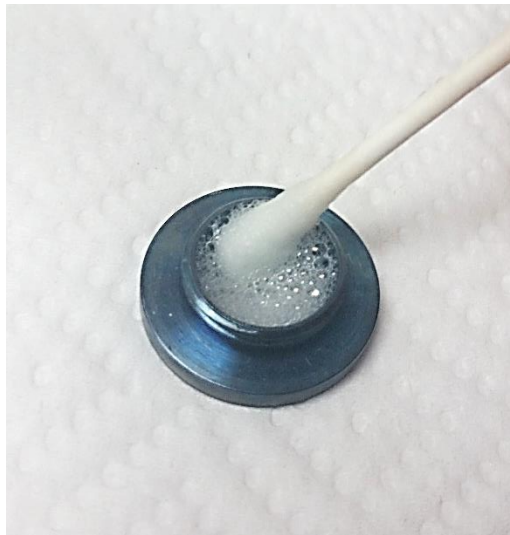

Figure 6.3 Cleaning the OIP Window is soapy water
1. Wash the backside of the OIP window with water or soapy water and a Q-tip (Fig. 6.3)